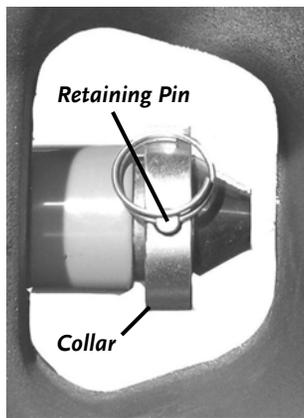

Figure 9
2. Reattach the Collar and Retaining Pin to secure the Generator (**Figure 9**).
5. Route the Drive Belt around the Generator Belt Tension Pulley and the Generator Drive Pulley (**Figure 9**).